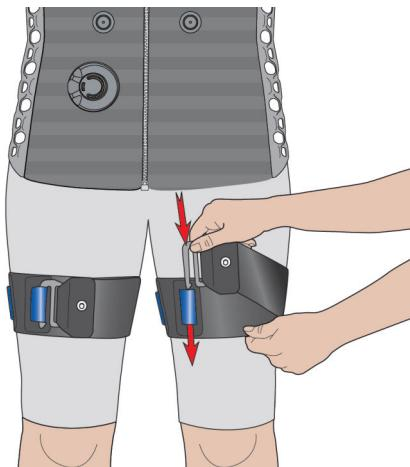

Fig. 45: Closing the i-body® strap flex
15. Insert the hook into one of the loops (Fig. 45). Adjust the width so that it is comfortable for the athlete and at the same time provides enough contact pressure.